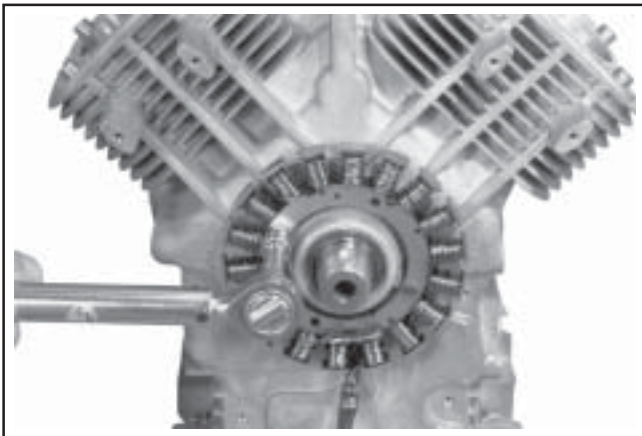

Figure 9-65. Removing Stator.
2. Remove the two hex head screws and stator. See Figure 9-65. Note the routing of the stator lead in the channel.